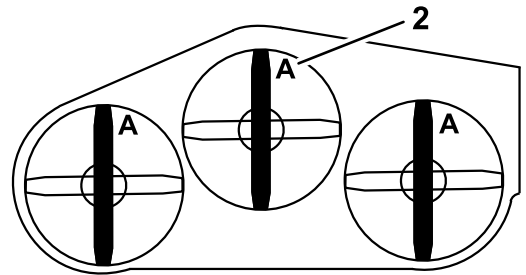
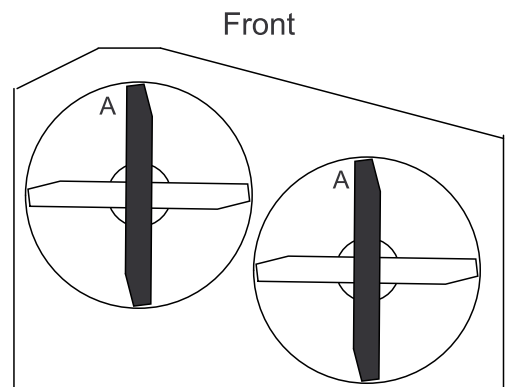

Figure 72
Figure 73
3. Rotate the blades until the ends face forward and backward. Measure from a level surface to the cutting edge, position **A**, of the blades (Figure 72). Note this dimension. For 36 inch mower decks use Figure 73.